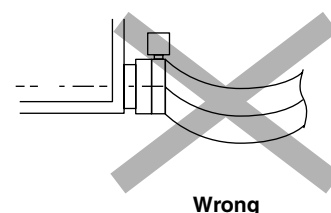

Fig. 24
- No folding of drain hose inside the indoor unit. **(Refer to Fig. 24)**